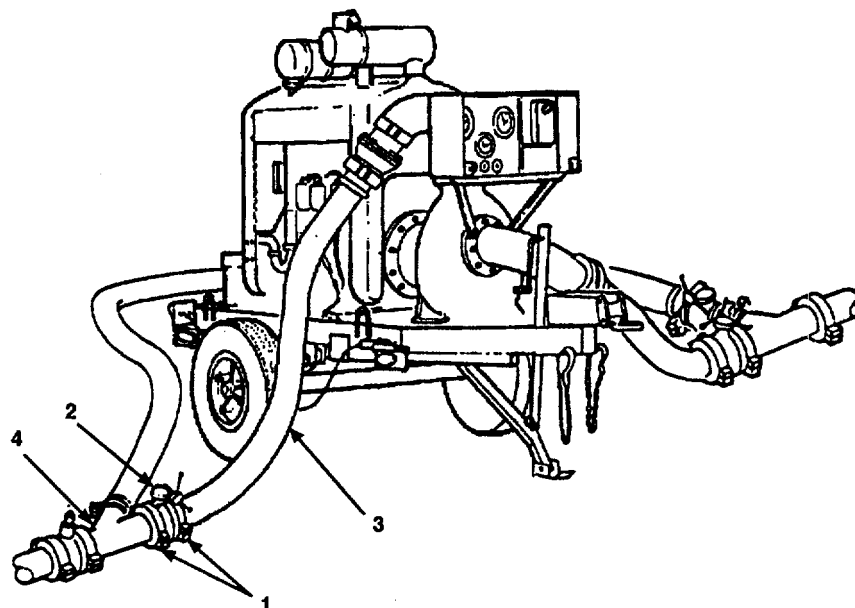
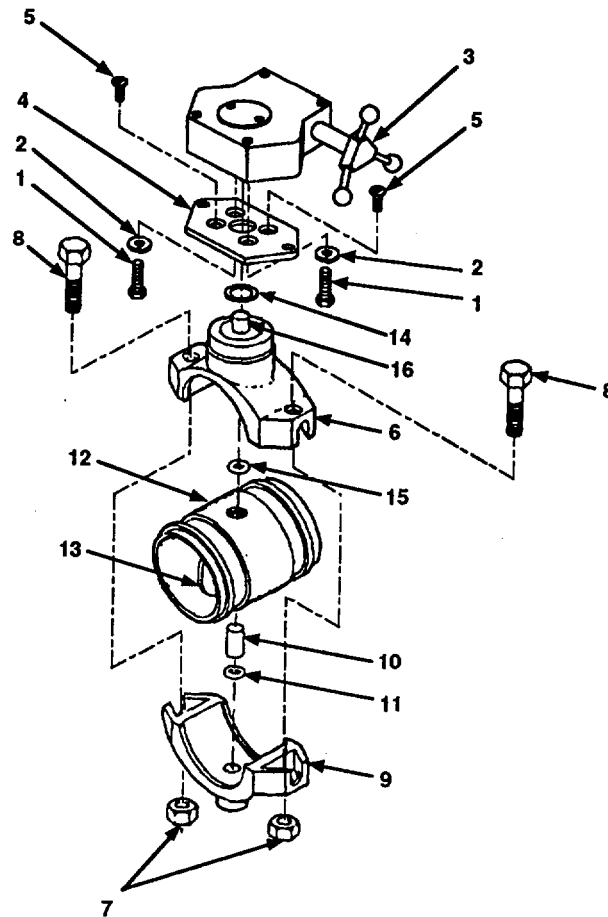

Figure 4-3. 6 Inch Butterfly Valve Assembly Removal.
Figure 4-4. 6 Inch Butterfly Valve Assembly Disassembly.
- Remove two grooved-end pipe quick-disconnect coupling clamps (Figure 4-3, 1) securing 6 inch butterfly valve assembly (2) to 6 inch X 20 foot hose assembly (3) and lateral grooved pipe fitting (4).
- Remove 6 inch butterfly valve assembly (2).
- Remove two bolts (Figure 4-4, 1), lock washers (2) and remove handle assembly (3) from mounting plate (4). Discard lock washers (2).
- b. Install new preformed packing (15) and washer (14) on upper stem (16).
- c. Install disc (13) in body (12). Ensure holes in top and bottom of disc (13) are aligned with holes in top and bottom of body (12).
- d. Install body (12) in upper housing (6). Ensure upper stem (16) is inserted through body (12) and installed securely in upper mounting hole of disc (13).
- e. Install new preformed packing (11) and lower stem (10) in lower housing (9).
- f. Install lower housing (9) on body (12) and upper housing (6) assembly. Ensure lower stem (10) is inserted through body (12) and installed securely in mounting lower hole of disc (13).
- g. Carefully align upper housing (6) and lower housing (9) and install two bolts (8) and nuts (7). Tighten nuts (7).
- h. Place mounting plate (4) on upper housing (6). Install two screws (5). Tighten screws (5).
- i. Install handle assembly (3) on mounting plate (4).
- j. Install two new lock washers (2) and bolts (1). Tighten bolts (1).
- a. Install 6 inch butterfly valve assembly (Figure 4-3, 2) next to 6 inch X 20 foot hose assembly (3) and lateral grooved pipe fitting (4).
- b. Install two grooved-end pipe quick-disconnect coupling clamps (1) securing 6 inch butterfly valve assembly (2) to 6 inch X 20 foot hose assembly (3) and lateral grooved pipe fitting (4).